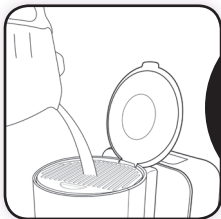

Figure 9
- 1 Lift up the front water reservoir lid and pour in cold, fresh filtered water until the water window fills to the desired capacity. (Figure 9)